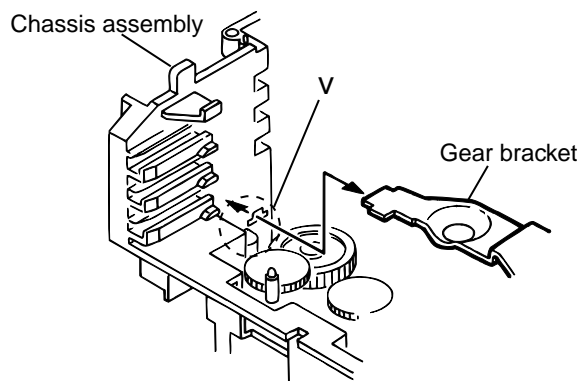

Fig.20
3. From the notch "v section" on the chassis assembly fixing the edge of gear bracket, remove and take out the gear bracket(See Fig. 20).